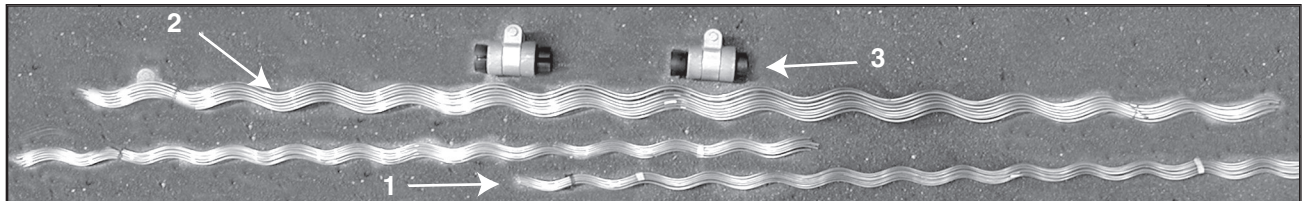

FIGURE 1: NOMENCLATURE FOR FIBERLIGN SUSPENSIONS FOR OPGW & ADSS
2.03 Standard Double Suspensions have a Single-Set of Structural Reinforcing Rods (SRR) made up of preformed helical shaped rods with a color code mark located at the center of each rod. Spread Double Suspension may have a Single-Set of Structural Reinforcing Rods (SRR) or Two-Set SRRs as shown above in figure 1.